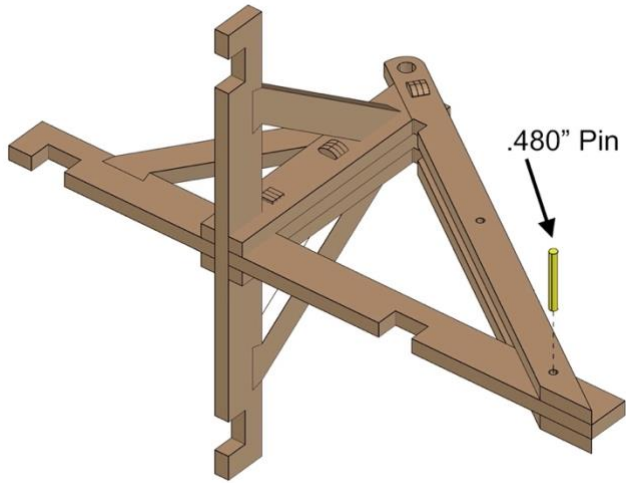

Fig. 49
- Align parts exactly as shown in *Fig. 49*.